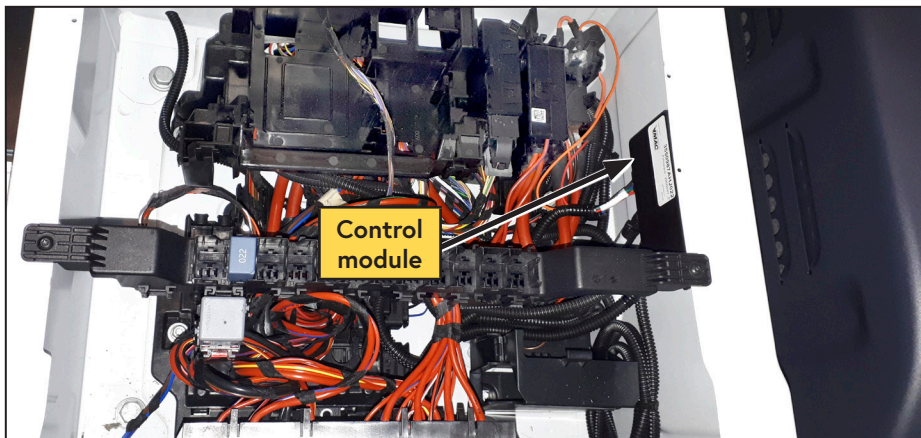

Figure 43 — Install control module
- Mount the control module under the driver seat (Figure 43).